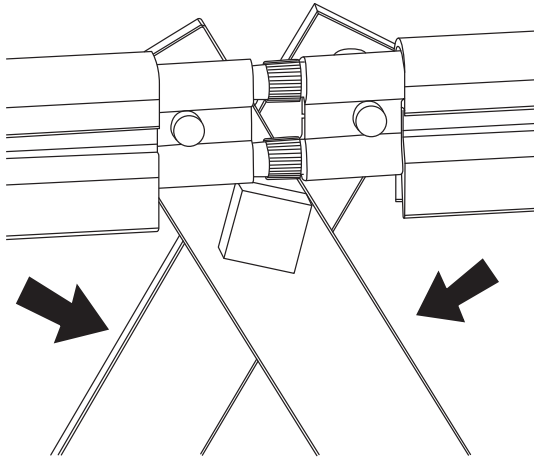

Figure: 9-5
A. For joining pinned conductor bars, see **Figure 9-5**.